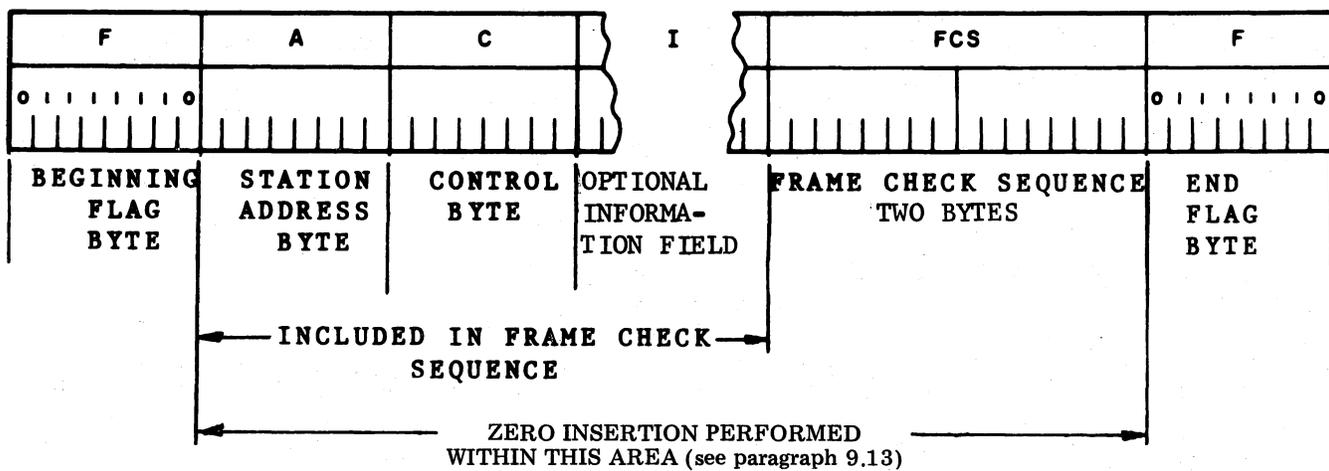

Fig. 20—ADCCP Frame
9.05 All transmissions on an ADCCP communication line are made in groups of data bytes (eight bits per byte) called frames. The structure of each frame is the same: a beginning Flag byte (F) followed by an Address byte (A), a Control field byte (C), an optional Information field composed of a varying number of bytes (I), a two-byte Frame Check Sequence (FCS), and an ending Flag byte (F). An ADCCP (SDLC) frame thus contains a minimum of six bytes (F, A, C, FCS, F). See Fig. 20. A maximum of seven frames can be transmitted before an acknowledgement specifying Nr is required from the receiving station (see Table R).